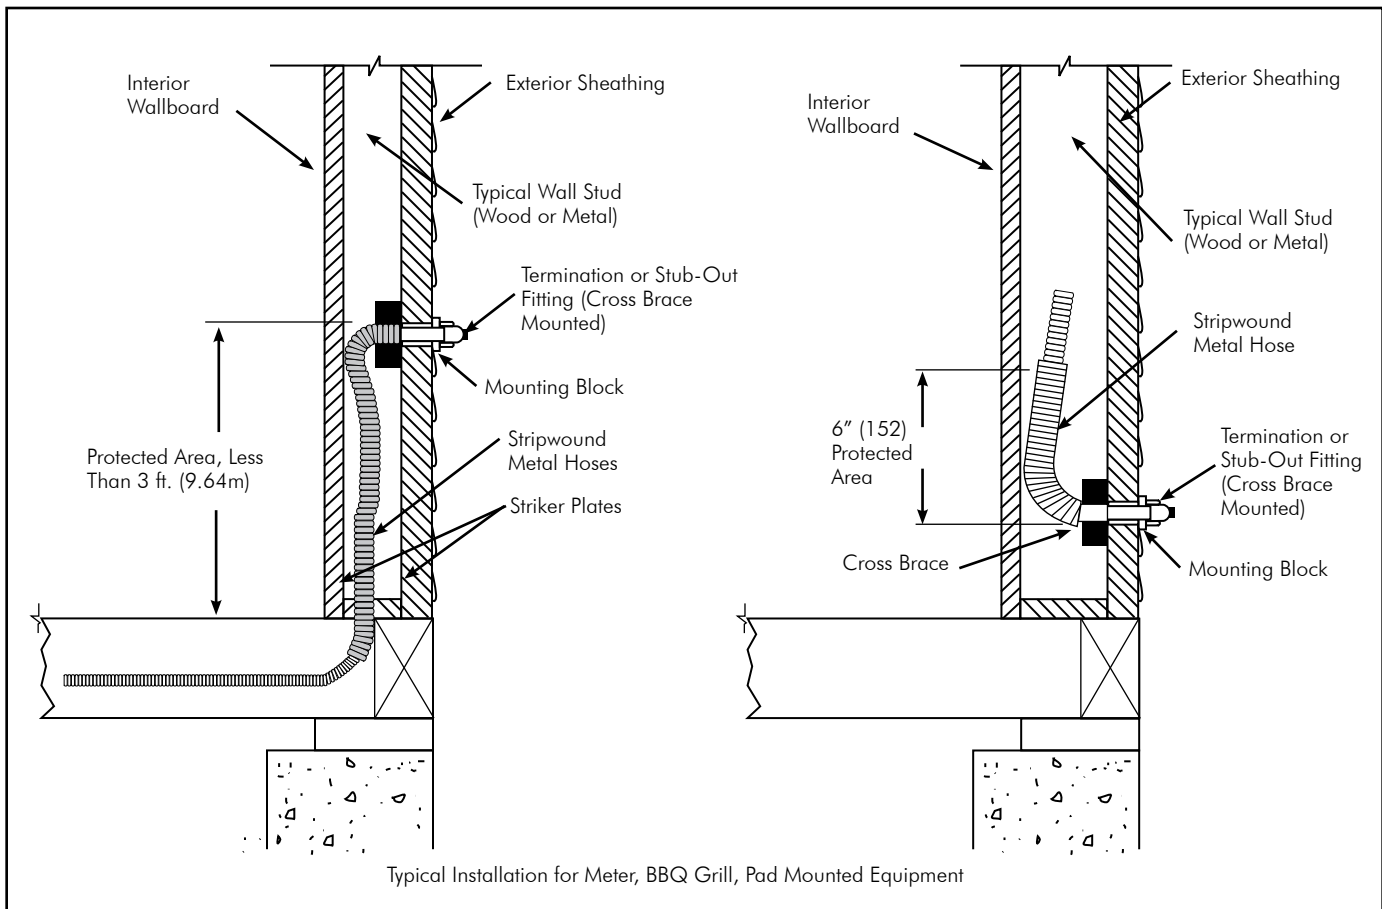
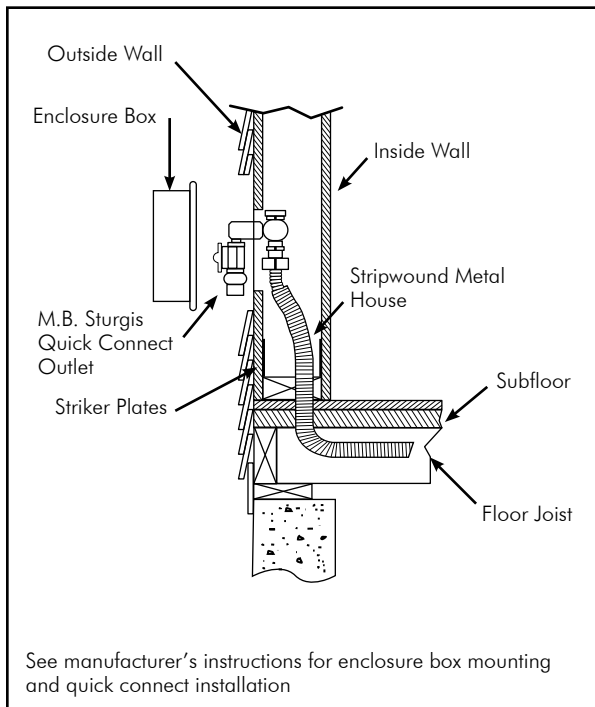

FIG. 4-23 Standard Termination or Stub-Out Fitting Mounted on Outside Wall
FIG. 4-24 BBQ Quick-Connect Outlet
- Movable grills shall be connected using an approved outdoor appliance connector which shall be attached to the Diamondback system at either a termination or stub-out fitting as shown in **FIG. 4-23** or a quick-connect device, such as the M.B. Sturgis gas convenience outlet shown in **FIG. 4-24**. The M.B. Sturgis gas convenience outlet shall be installed in accordance with the manufacturer's instructions.
- Gas appliances mounted on concrete pads or bricks, such as heat pumps, air conditioners, pool heaters and NGV refueling systems, shall be connected to the Diamondback system at a termination or stub-out fitting using either rigid pipe or an approved outdoor appliance connector as shown in **FIG. 4-24 & 4-28**.